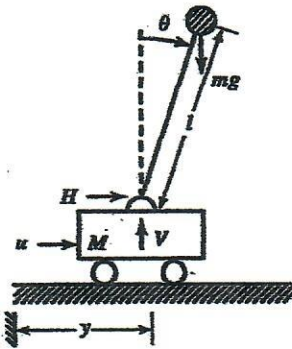

Figure 1. Inverted Pendulum on a Cart
1. Consider a robotic cart that tries to balance a pendulum at the vertical position by appropriate control  $u$  as shown in Figure 1. Let  $H$  and  $V$  be, respectively, the horizontal and vertical forces exerted by the cart to the pendulum.